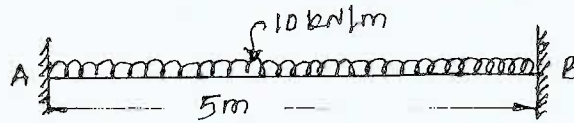

Fig.Q4(b)
b. Analyse the fixed beam by strain energy method and draw SFD and BMD. Shown in Fig.Q4(b). (12 Marks)